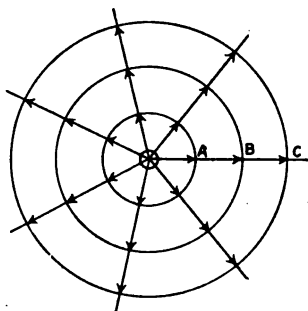

FIG. 356. — Sound waves spread out in all directions from this source.
**383. Intensity or loudness of sound.** It must always be remembered that when a bell is struck, the sound is heard in all directions, which means that sound waves spread out in all directions as shown in figure 356. As the distance from the source increases, the spherical waves spread out over more surface, and so the intensity of the sound decreases. For example, a bell 10 feet away will sound one fourth as loud -- the same bell 5 feet away, and if 15 feet away, it sounds